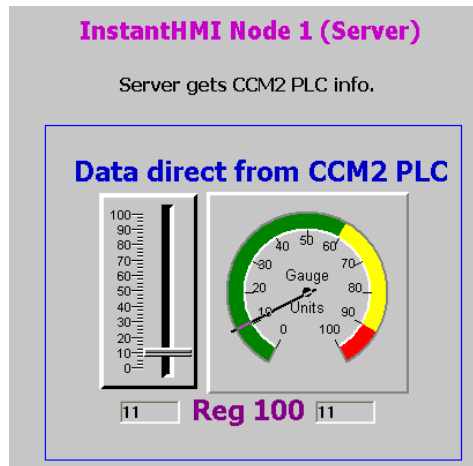

Figure 11.10: TCP/IP Demo Project Screen
- Deploy a copy of the InstantHMI project from Node 1 on Node 2. This will include the screens (Figure 11.10 for example) and the Tag Database.